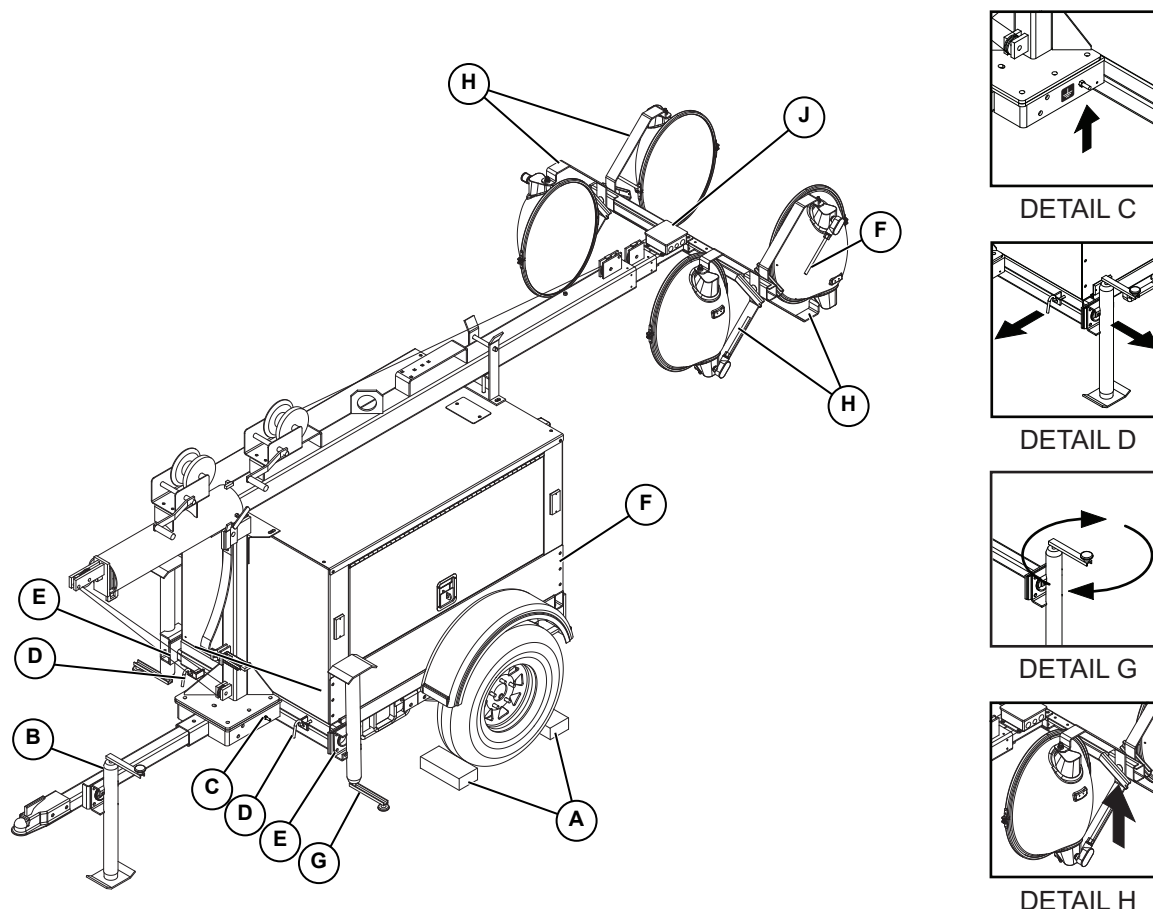

Figure 3-1. Set Up Outriggers and Jacks
2. See **Figure 3-1**. Place the unit on firm ground that is relatively flat, and then block the wheels (A) to keep it from moving. This will make it easier to level the unit.
3. Pull the locking pin (B) on the tongue jack and rotate the jack 90°. Reinstall the locking pin. Turn the jack handle clockwise to raise the trailer tongue off of the towing vehicle.
4. A grounding stud (C) is located on the control box. For grounding requirements, follow the National Electrical Code (NEC), state, and local regulations.
5. See Detail E. Pull the locking pin (D) on the outrigger (E) and pull each outrigger out until the spring loaded locking pin snaps back into place. Pull the locking pin on the outrigger jack and rotate each jack 90° so the jack pad is facing down. Reinstall the locking pin.
6. Pull the locking pin on the rear jack (F) and rotate the jack 90°. Reinstall the locking pin. Rotate the jack handle clockwise to start leveling the trailer (see Detail G). Adjust all four jacks by rotating their handles (G) clockwise until they are firmly in contact with the ground and the trailer is as level as possible.